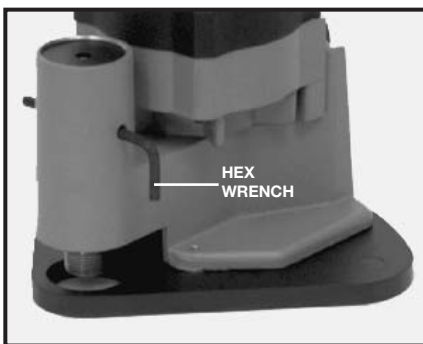

Fig. 10
1. Insert long portion of hex wrench (furnished) through spindle lock hole (see Fig. 10) so that wrench protrudes from both sides of base housing. It may be necessary to rotate spindle by hand to align hole in spindle with holes in housing.